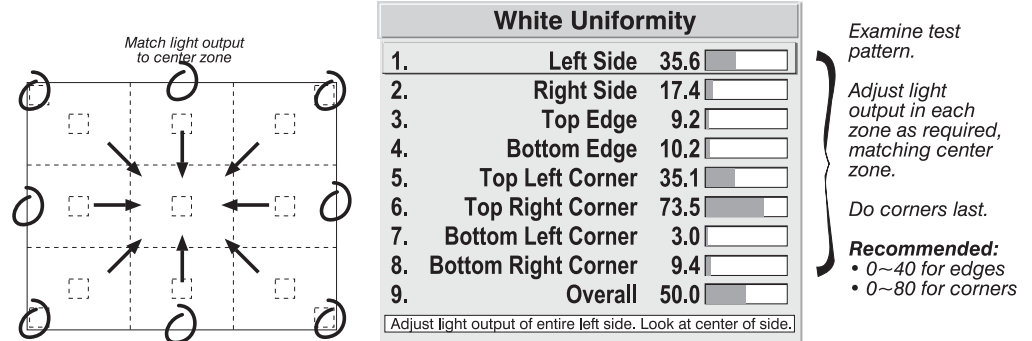

Figure 3.31. Match Zones to Center Light Output
- 3a) For each screen, compare the light output of each *edge* and *corner* to that of the *center*. If any of the areas differ, use the *White Uniformity* menu to match edges and corners to the center as described below (see Figure 3.31). Begin with the screen exhibiting the most obvious variations in light output.